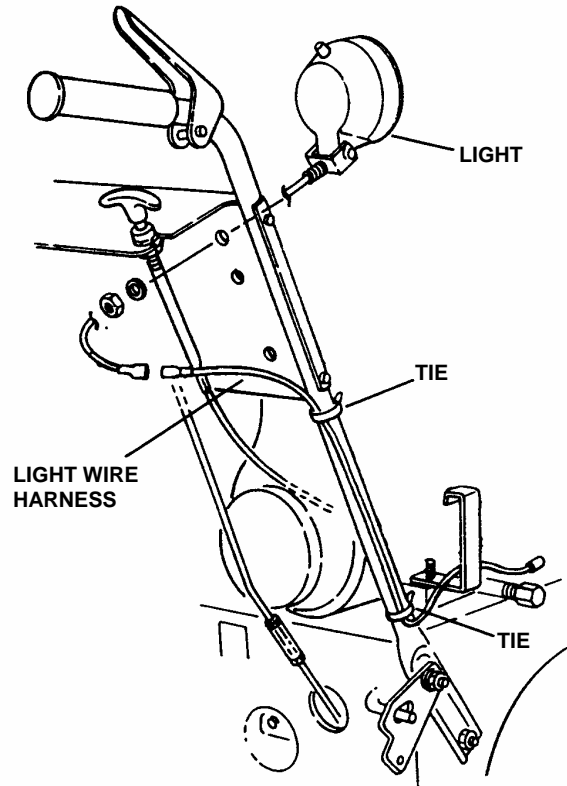

FIGURE 3
STEP 3: Install light onto control panel with washer and nut and tighten securely. Install light wire harness into end of light wire and route down handle and secure with ties as shown. See Figure 3.